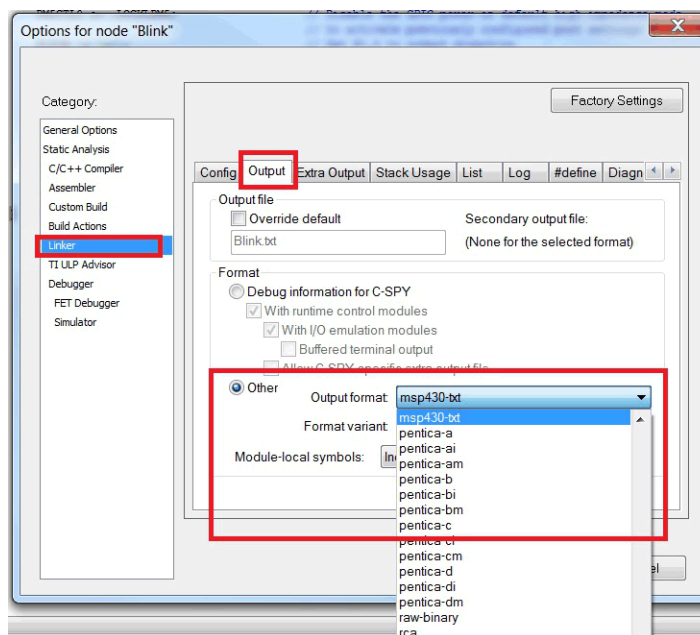

Figure 8. IAR – Select Output Format
2. Under **Linker Category**, select the **Output** tab. In the **Format** section, select **Other**, then select the **msp430-txt** or **intel-standard** output format (see Figure 8).